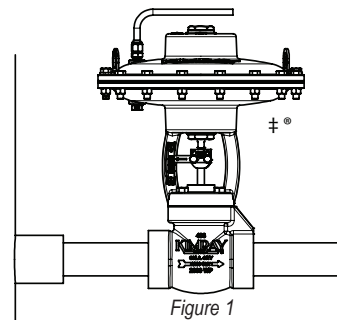
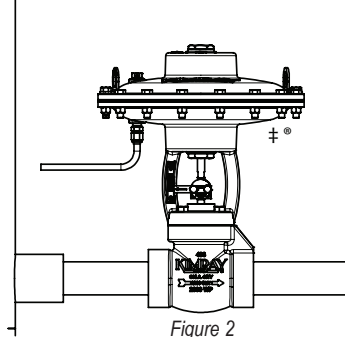

Figure 1
Figure 2
3. Connect instrument gas to the actuator connection. For fail open valves, the actuator connection is on the top side of the actuator (see Figure 1). For fail closed valves, the actuator connection is on the bottom side of the actuator (see Figure 2). The maximum required instrument gas pressure is 30 psig (2 bar). The maximum allowable instrument gas pressure is 45 psig (3 bar).